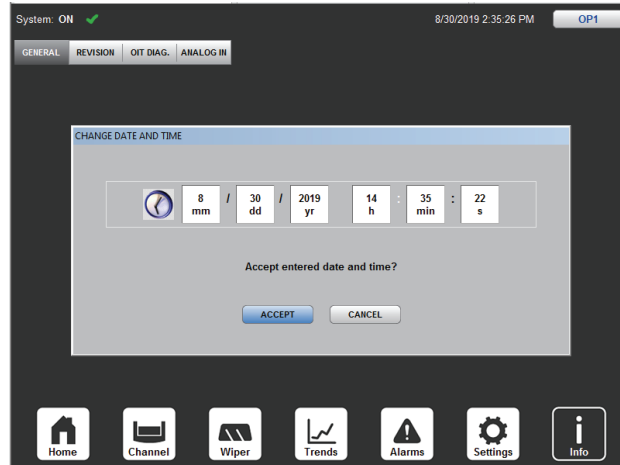

Figure 56 Date and Time Pop-Up
1. Info Screen → Select the 'GENERAL' tab (Figure 52) → Select 'Set Date and Time' to open the Date and Time Pop-up Screen (Figure 56).